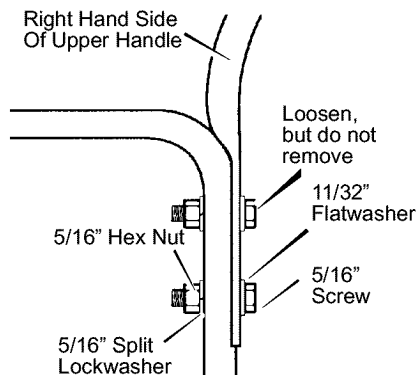

Figure 3
2. Loosen, but do not remove, the screws, flatwashers, lockwashers, and hex nuts in the upper holes of the lower handle. See Figure 3.
3. Remove the fasteners from the lower holes of the lower handle See Figure 3.